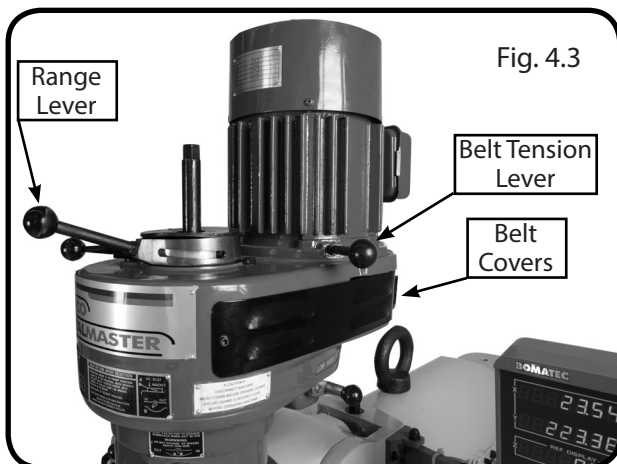

Fig. 4.3
3. Pull the spindle speed range selector knob (see Fig. 4.3) out, position either in HIGH or LOW range, then release knob to seat knob pin in detent. **NOTE:** If it is difficult to move range selector knob, rotate spindle by hand to help mesh the gears until selector moves freely.
5. Remove belt housing side covers on either side of head to expose V-belt and pulleys, as shown in Fig. 4.3
6. Loosen two motor lock levers, one on each side of head, then pull belt tension adjustment lever forward to release V-belt tension (see Fig. 4.3).